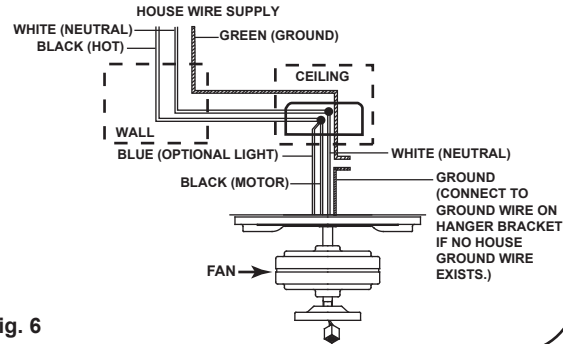

Fig. 6
Step 1. Connect the black (hot) wire from the ceiling to the black and the blue wires from the fan. Connect the white (Neutral) wire from the ceiling to the white wire from the fan. (Fig. 6)
Step 2. If your outlet has a ground wire (Green or Bare Copper) connect the fan ground wires (on hanger ball and hanger bracket) to it; otherwise connect the fan ground wire on hanger ball directly to the hanger bracket. (Fig. 6)